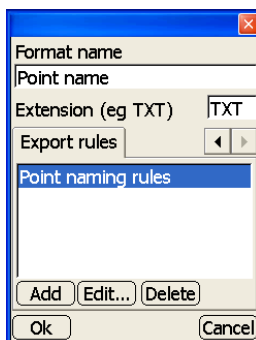

Figure 3-21. Export Rules Tab
The Export rules tab adds, edits, or deletes export rules for the selected conversion format (Figure 3-21).
- **Edit** – on the *Export rules* tab, press **Edit** to edit the selected export rule. See the “Add” bullet on page 3-13 and Figure 3-21 for details on editing the import rule.
- **Delete** – on the *Export rules* tab, press **Delete** to delete the selected export rule (Figure 3-21).